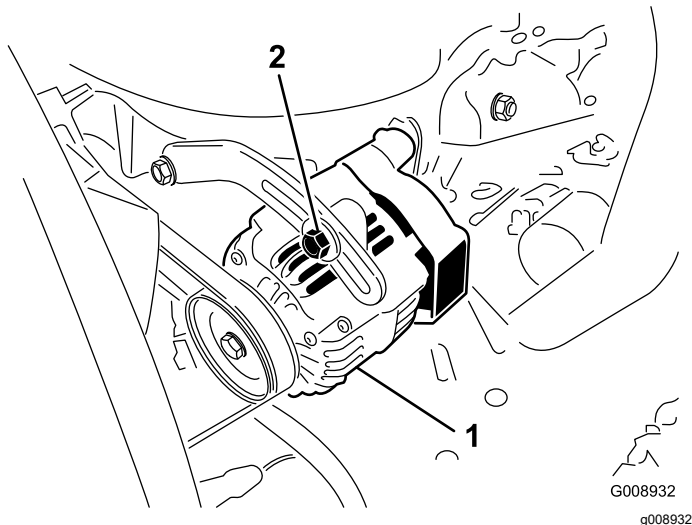

Figure 52
2. If the deflection is not 10 mm (3/8 inch), loosen the alternator mounting bolts (Figure 52).